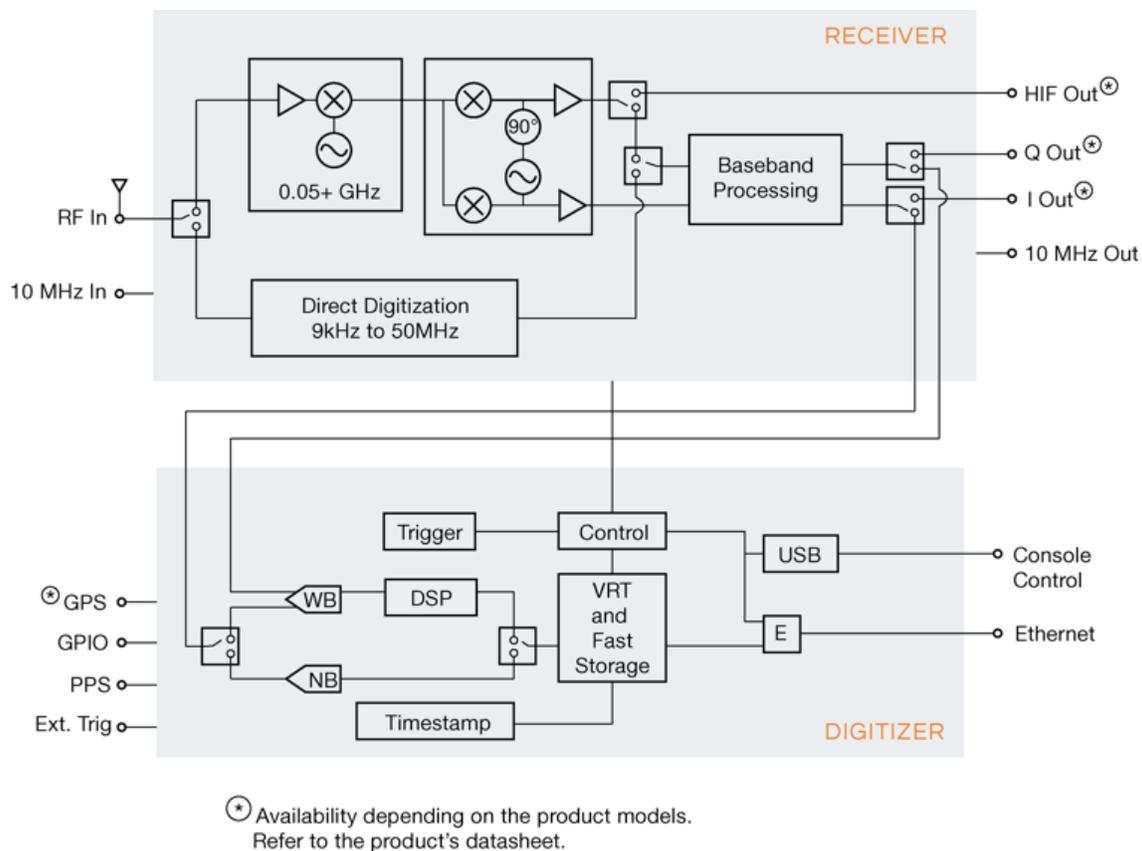

Figure 1: ThinkRF RTSA’s Receiver and Digitizer Architecture
Referring to the RTSA's digitizer architecture in Figure 1, when a signal of interest occurs, a sequence of events take place. The digitized time-domain signal from the wibeband (WB) analog-to-digital converter (ADC) is transformed to frequency-domain using a 1024-point FFT engine embedded within the RTSA's FPGA. The capture control and triggering mechanism compare the FFT output data with the user-defined triggering conditions (frequency range and threshold). A trigger event occurs, data is captured. Since no storage memory is involved in the time spent during this sequence of events, the data captured is thus of post-triggered nature.